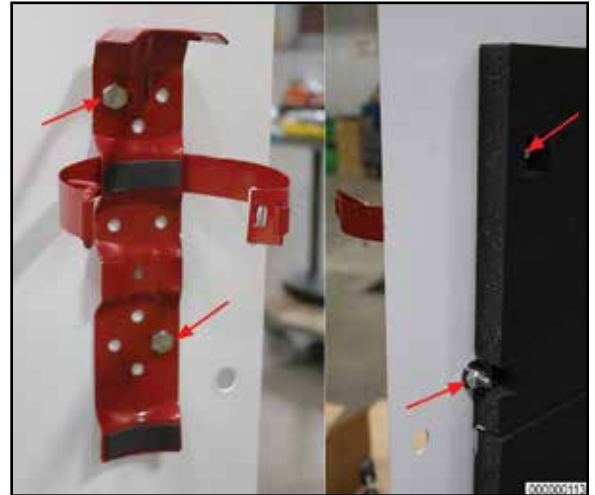

Figure 6
- **Step 12:** Flip panel over (foam side of rear panel facing down), position fire extinguisher mount over mounting holes and attach to rear panel using two (2) 1/4-20 stainless steel bolts on the mount, and two (2) 1/4-20 stainless steel flat washers & locknuts on the backside. (Figure 6) **DO NOT** overtighten - snug bolts & nuts only.
- **Step 13:** Reinstall rear panel using ten (10) previously removed bolts with 13mm socket and ratchet or driver. Snug bolts only